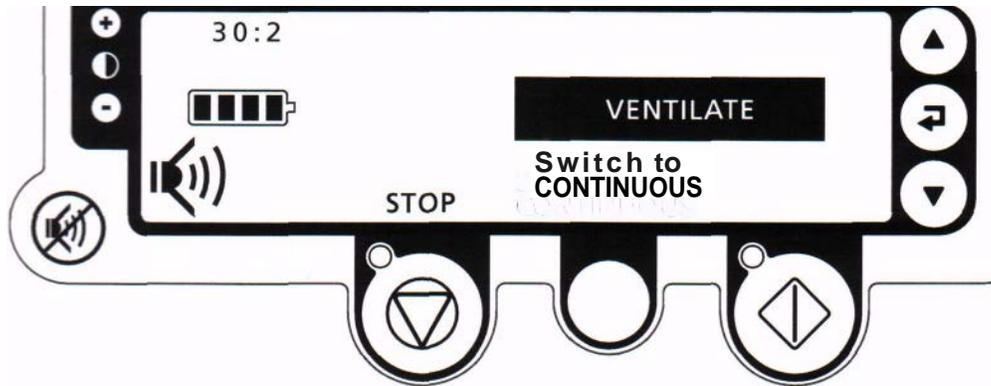

Figure 3-12 Ventilation Pause Display Panel Screen
- Depending on the Mode setting in Administrative Menu (refer to Section 2.3, "Administrative Menu: user pre-set options," on page 2-9), the AutoPulse Platform will perform 30:2, 15:2 or Continuous compressions. In 30:2 mode the Platform performs 30 compressions and then pauses for three seconds to permit the user to ventilate the patient before automatically resuming compressions (see Figure 3-12). In 15:2 mode the Platform performs 15 compressions and then pauses for three seconds to permit the user to ventilate the patient before automatically resuming compressions (see Figure 3-12). In Continuous mode the Platform performs continuous compressions. If 30:2 on-the-fly mode switching has been enabled (in the Mode setting within the Administrative Menu) then the AutoPulse Platform will perform in the mode (either 30:2 or Continuous) that was used last until powered down; on power up 30:2 will be the initial selection. If 15:2 on-the-fly mode switching has been enabled (in the Mode setting within the Administrative Menu) then the AutoPulse Platform will perform in the mode (either 15:2 or Continuous) that was used last until powered down; on power up 15:2 will be the initial selection.